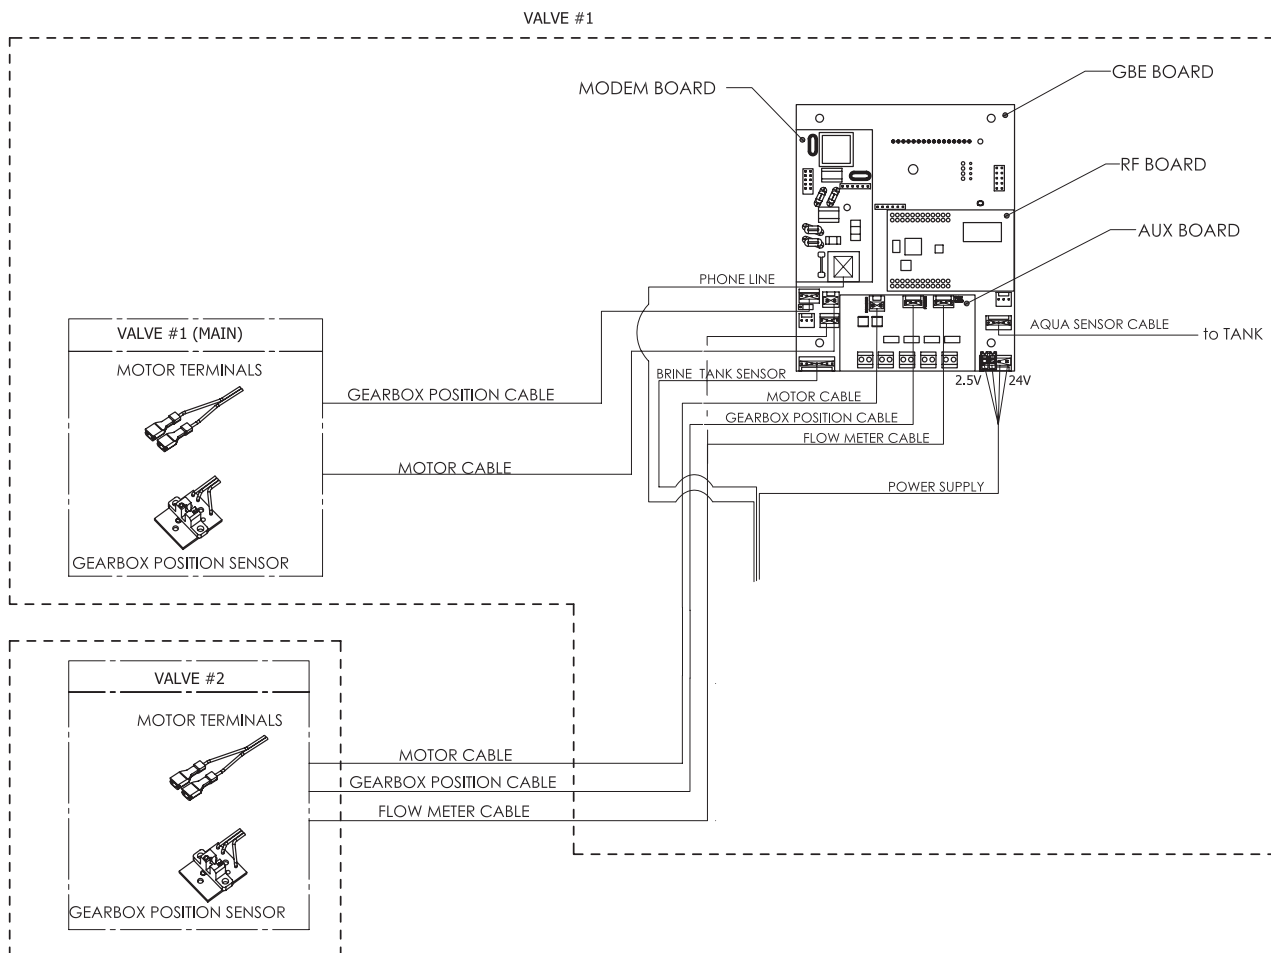

Figure 28. Circuit board connections.
5. Connect the motor cable, optical sensor cable, and meter cable from the HE 1.5 Twin Controller #2 to the auxiliary board (see Figure 28).